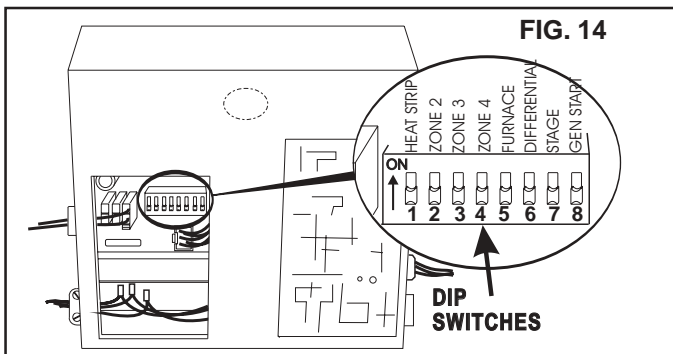

FIG. 14
2. Connect the white to white; black to black; and green to green or bare copper wire using appropriately sized twist wire connectors. **Tape** the twist wire connectors to the supply wiring to assure they do not vibrate off. See FIG. 14.
Depending on the equipment options installed by the recreational vehicle manufacturer, the appropriate dip switches will need to be switched to the "ON" position. See FIG. 14. Placing the switch in the "ON" position selects that option.